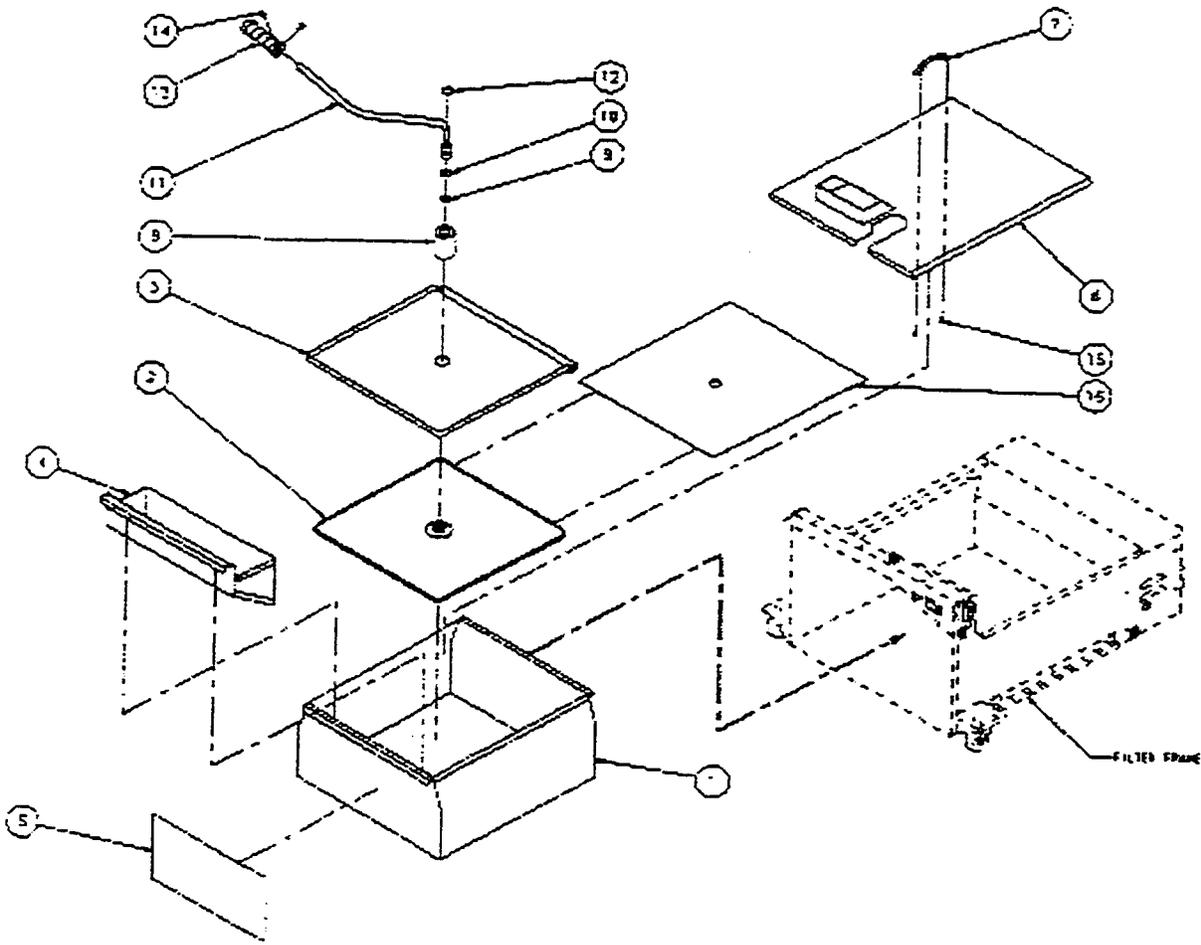

Figure 3 Filter, Pick-Up / Pan Assembly
2. Filter circuit breaker "OFF" or tripped.	Reset circuit breaker (Figure 3, Item 8), check that a system valve is open before starting pump.
3. Thermal protector on motor is open.	Allow motor to cool, reset thermal protector (Figure 3, Item 7). (If this is a recurring problem, the people doing the filtering must be taught to open a blue or red valve first, then switch the pump "ON").
2. Return hose not fully engaged on filter fitting.	Be sure that the black insulator is pushed all the way down and locks on the filter fitting. (Figure 3, Item 8)
2. Filter circuit breaker "OFF". (Figure 3, Item 7)	Check that filter circuit breaker is in "ON" position.